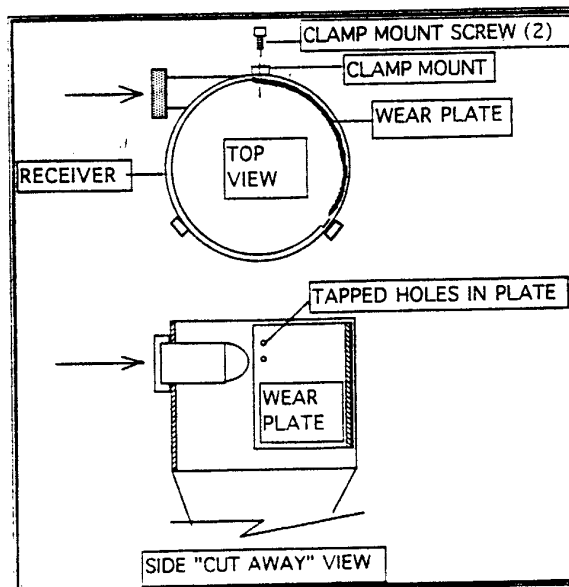

FIGURE 7 - HIGH WEAR KIT
**HIGH WEAR KIT OPTION** (Figure 7)